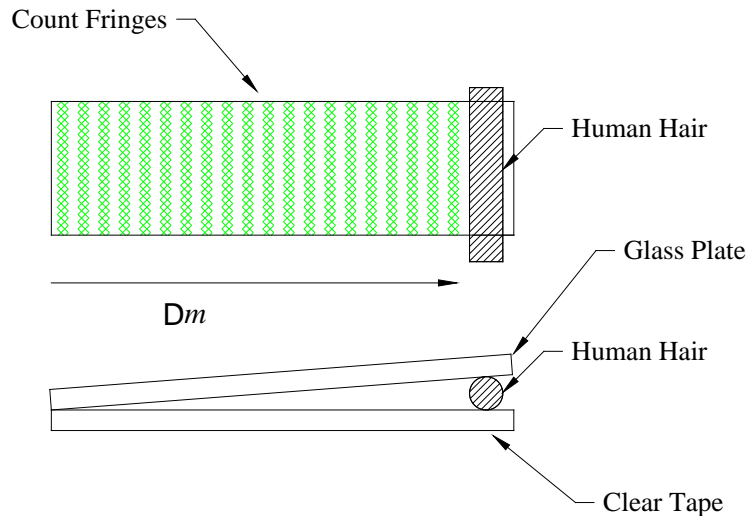

Figure 8 Drawing of fringes formed by two glass plates with a human hair sandwiched at one end. Note that the scale of the hair has been greatly exaggerated.
17) Place the glass plates underneath the green Mercury lamp. Position the plates so that you can observe a reflection of the lamp in the surface of the glass. You should be able to see a series of dark bands running across the plates as shown in Figure 8. Sometimes the fringes are not perfectly straight. Explain what might be wrong.